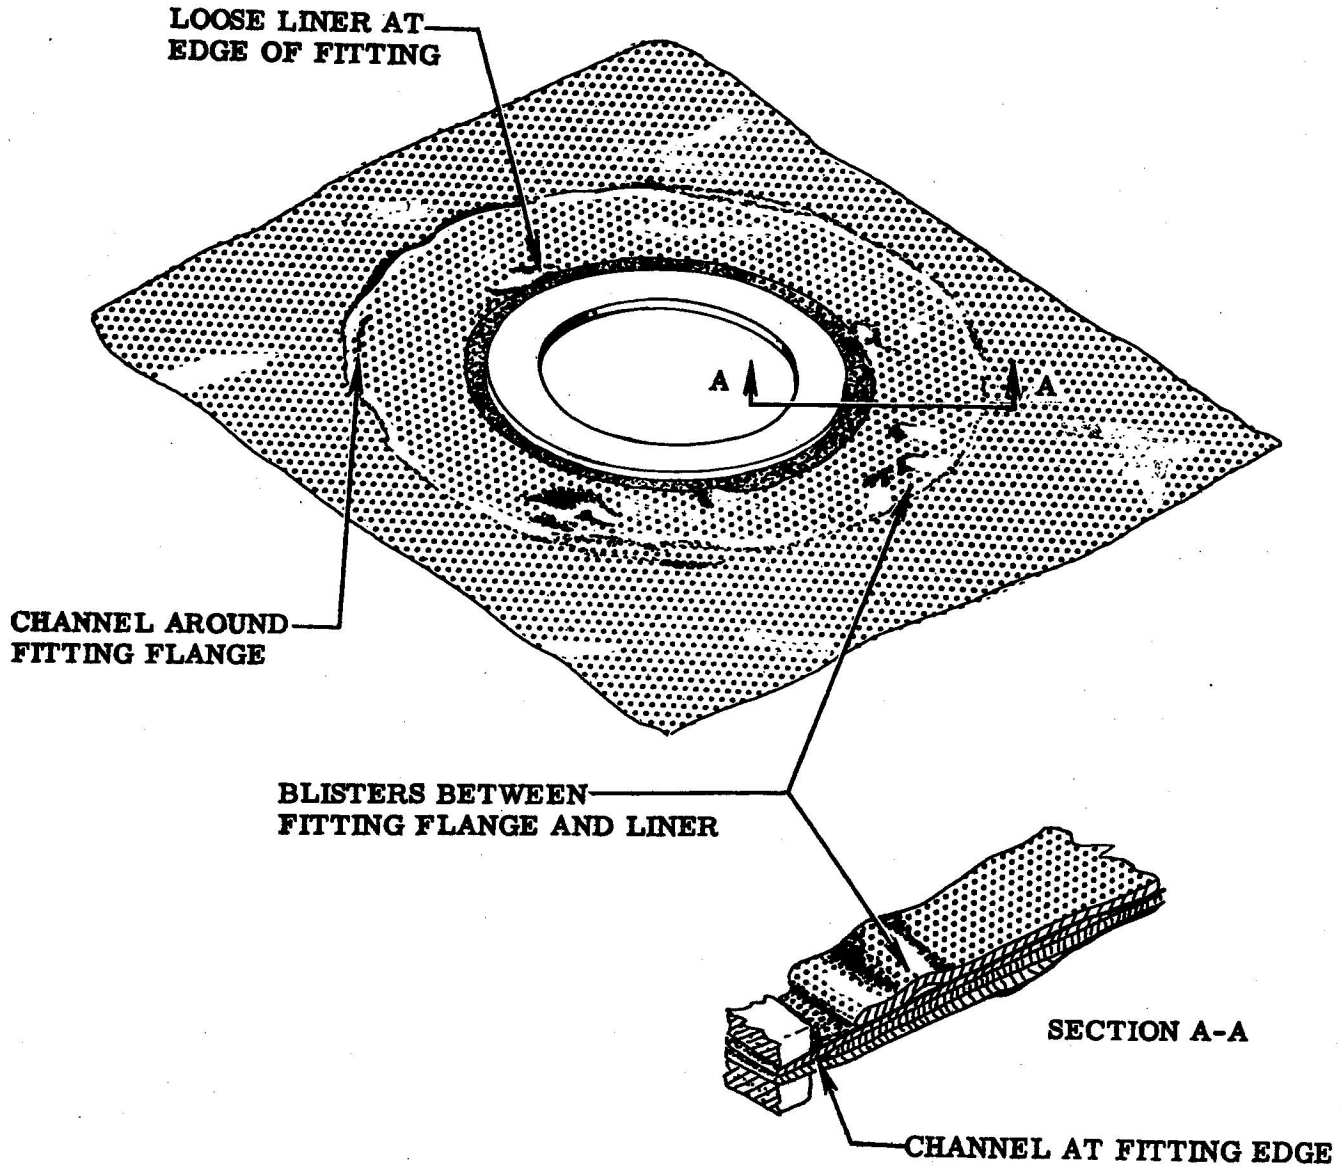
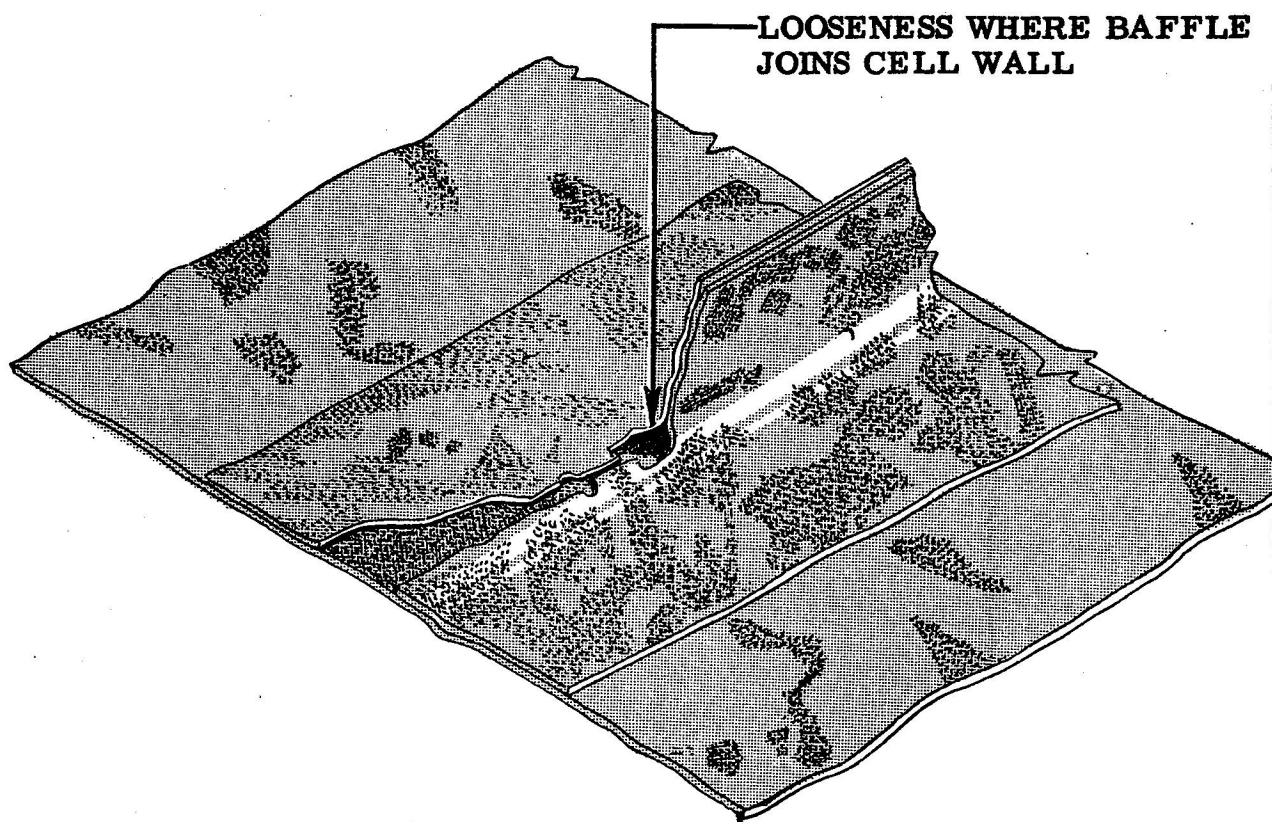
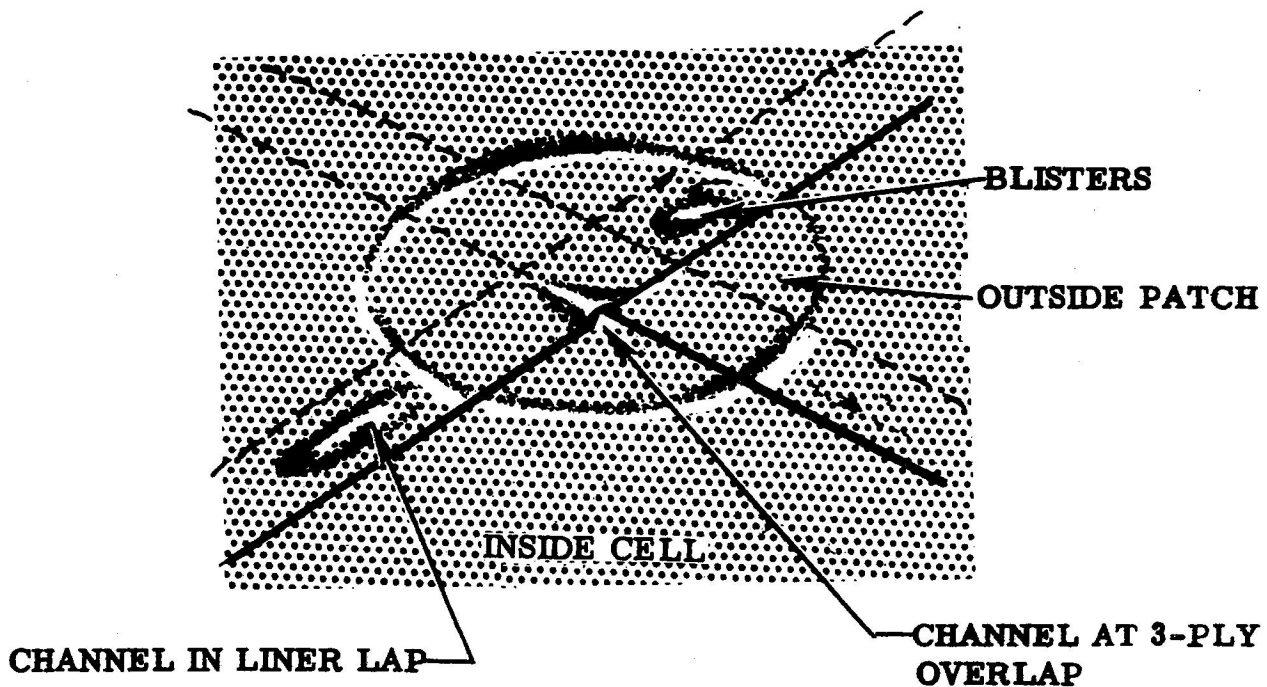
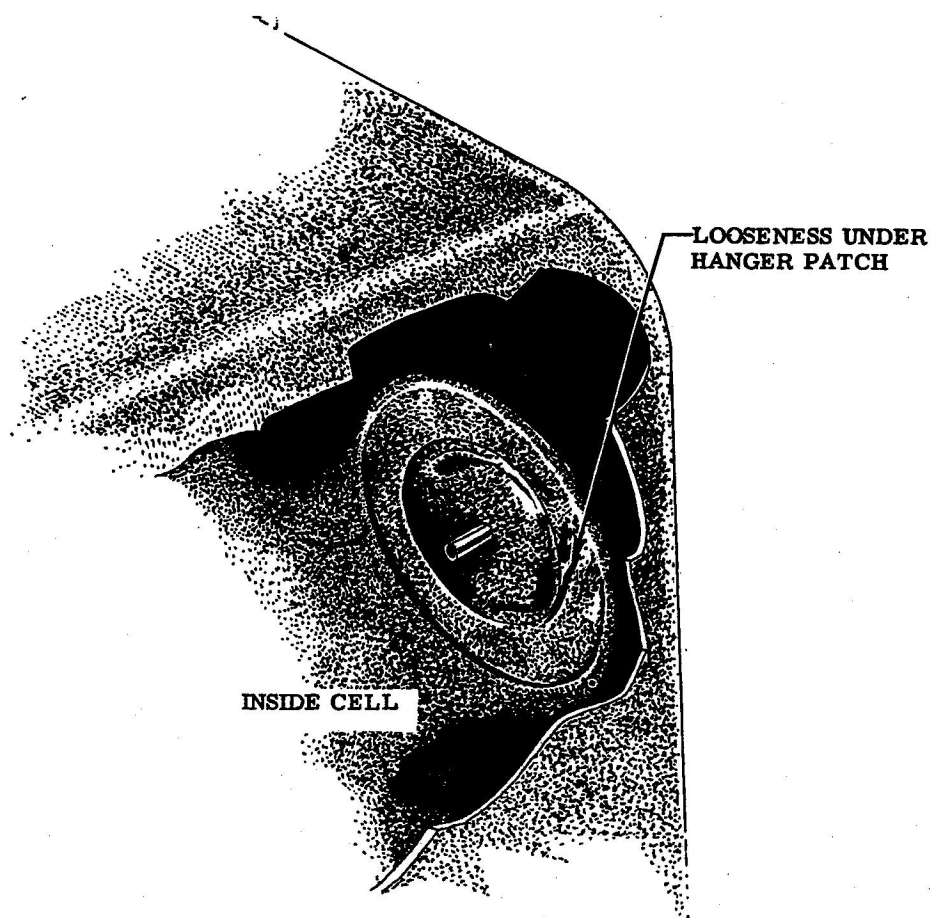

Figure 2
Figure 3
Figure 4
Figure 8
(1) Loose liner at throat of fitting.	1/2-inch looseness in width around entire circumference at throat of fitting (see figure 2).
(2) Edge looseness at liner lap.	Acceptable up to 1/4-inch width maximum length of liner lap, provided 1-inch bond is maintained.
(3) Edge looseness on liner reinforcements, corner patches, and chafing patches.	1/2-inch maximum looseness, provided loose area does not exceed 15 percent of total area. Blisters or separations other than in the edge area allowable up to 15 percent of total area.
(4) Looseness under cemented components such as attaching straps, baffle shoes, etc.	15 percent of individual area provided 1/4-inch bond is maintained around the edge (see figure 3).
(5) Blisters between liner and fitting flange.	1/4-inch maximum dimension; maximum one per lineal foot and two per fitting provided 1-inch bond is maintained (see figure 2).
(6) Damaged grommets in accessories.	Acceptable provided serviceability is not affected.
(7) Damaged coating on accessories (metal, wood or rubber).	Acceptable provided rust, corrosion or other deterioration is not present.
(8) Checking due to weather, ozone, dry cracking or surface imperfections	Acceptable provided there is no indication of activation.
(9) Blisters in liner laps.	1/4-inch maximum dimension; average one per lineal foot of splice with a maximum of five in any one 5-foot length of splice (see figure 4).
(10) Blisters, delaminations, or ply separations.	1-inch maximum dimension provided there is a 6-inch bond between blisters and no more than one per square foot of total cell area.
(11) Channels in inner-liner laps.	1/8-inch by 3-inch maximum dimension with a maximum of one in any 5 lineal feet of splice (see figure 4).
(12) Channels around entire outer edge of fitting flange.	1/4-inch maximum width (see figure 2).
(14) Open end channels in three-ply liner overlaps or tailored corners.	1/8-inch by 3-inch maximum dimension provided 1-inch minimum bond is maintained between end of channel and sealant (see figure 4).
(1) Loose liner at throat of fitting.	1/2-inch looseness in width around entire circumference at throat of fitting, except*Firestone 1052-6 construction on which 1/16-inch edge looseness will be allowable (see figure 2).
(2) Loose liner lap.	1/4-inch looseness maximum width in edge of liner lap and full length of lap provided 1-inch bond is maintained, except*Firestone 1052-6 construction on which 1/16-inch edge looseness will be acceptable.
(3) Edge looseness on liner reinforcements and chafing patches.	1/2-inch maximum allowable looseness provided this looseness does not exceed 15 percent of total area. Blisters or separations other than in the edge area allowable up to 15 percent of the total area.
(4) Looseness of cemented internal support components such as attaching straps, baffle supports, etc.	Acceptable up to 15 percent of component area provided 1/4-inch solid bond is maintained around the edge (see figure 3).
(5) Blisters between fitting flange and adjacent ply.	1/4-inch maximum dimension; maximum one per lineal foot and two per fitting provided 1-inch bond is maintained (see figure 2).
(7) Damaged coating on accessories (rubber, metal or wood).	Acceptable provided no rust, corrosion or deterioration is apparent.
(8) Weather checking or minor surface imperfections in liner ply and reinforcement.	Acceptable provided serviceability is not affected.
(9) Blisters between liner laps.	1/4-inch maximum dimension; average one per 5 lineal feet of splice with a maximum of five in any one 5-foot length of splice (see figure 4).
(10) Blisters between plies (in cell panels).	1/4-inch maximum dimension; minimum of 6-inch bond between blisters and no more than one per square foot of cell area.
(11) Channels in liner laps.	1/8-inch by 3-inch maximum dimension with a maximum of one in any 5 lineal feet of lap (see figure 4).
(12) Channels around entire outer edge of fitting flange.	1/8-inch maximum width around entire fitting flange (see figure 2).
(13) Buffing through inner-liner.	Not acceptable.
(14) Exposed fabric.	Acceptable provided fabric is not damaged.
(15) Delamination between plies.	1-inch maximum dimension; average of one per 5 square feet of area with a maximum of five in any one 5 square feet of area. Minimum 6-inch solid bond between delaminations.
(16) Cuts or holes in inner-liners.	Not acceptable.
(1) Skim coat blisters.	Acceptable.
(2) Lap Splice edge looseness.	1/4-by 3-inch maximum dimension provided there are no more than one per lineal foot.